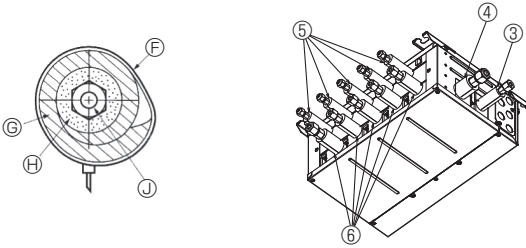
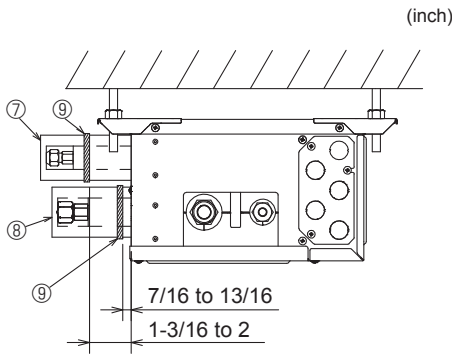

Fig. 7-4
Fig. 7-5
- Insulate the liquid and gas pipes of the branch box by attaching the heat-resistant polyethylene foam tightly around them. (Fig. 7-4)
- (5) Press the pipe covers ③ and ⑤ on the liquid piping against the unit and wrap to hold in place. (Fig. 7-4)
- (6) Press the pipe covers ④ and ⑥ on the gas piping against the unit and wrap to hold in place. (Fig. 7-4)
- (7) Apply the supplied bands ⑨ at a position 7/16-13/16 inch (10 - 20 mm) from each end of the pipe covers (③④⑤⑥).
- (8) If the indoor unit is not connected, fit the supplied pipe covers (with caps, ⑦ and ⑧) to the branch box refrigerant piping connections against the unit to prevent condensation dripping from the pipes. (Fig. 7-5)
- (9) Clamp the pipe covers (⑦⑧) in place with the supplied bands ⑨.
### 7.2. Handling of ports that are not connected to outdoor unit (Fig. 7-5)